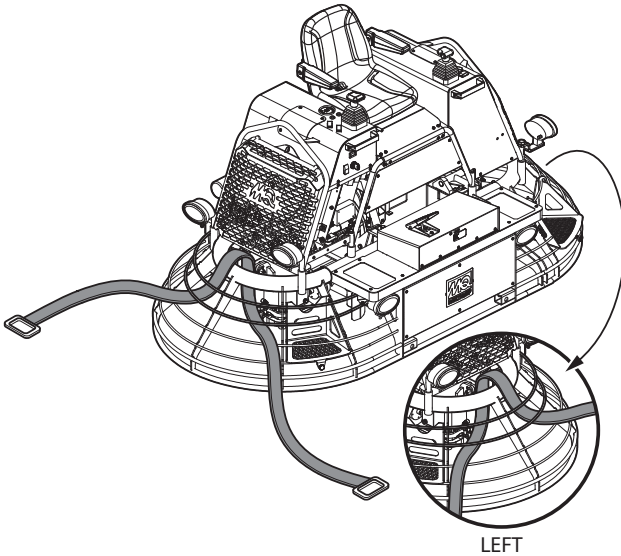

Figure 4. Routing Tie-down Straps
1. Attach suitable tie-down straps to the trowel. Route the tie-down straps on both sides as shown in Figure 4.